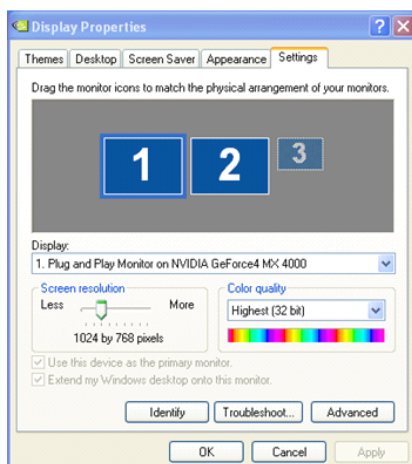
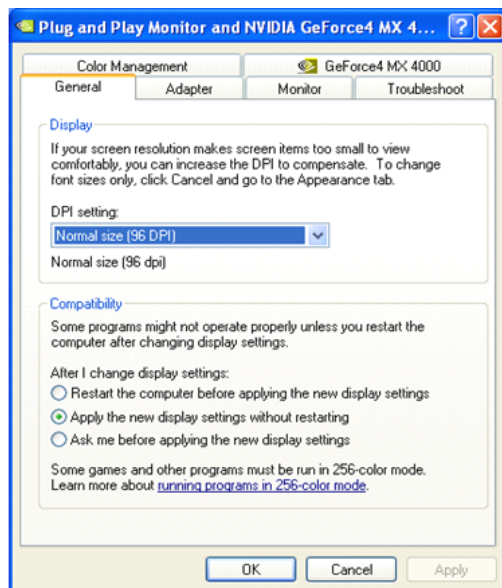
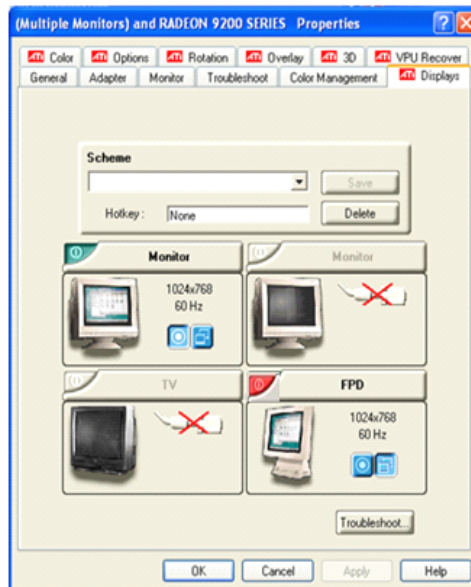

Figure 12-2
Figure 12-3
Figure 12-4
Click **[Property]** and the property menu will appear (Figure 12-2), click **[Set]** and the monitor (2) is activated. Select **[Expand the content of Windows to the monitor]** under the frame and press **[Application]** button, and then confirm. In this way, setting has been finished and the backstage playing can be realized. At this time, when pressing **[Back]** button of <LED studio device> too bar, the playing window will switch at the front and back stage of the monitor. When the playing window is switched to the front stage, the display screen will indicate Windows interface.
The following reverse settings shall be carried out when the front-stage playing replaces the backstage playing: right click the blank place in the desktop and Figure 12-1 will appear and then select [Property], Figure 12-2 will appear. Click [Monitor 2] and remove [✓] on the [Expand the content of Windows to the monitor] and click [Monitor 1]. Press [ok] and right click the mouse, Figure
12-1 will come out. Select property and Figure 12-2 will appear and click [Set] following with [senior], Figure 12-3 will come out. Click [display], Figure 12-4 will come out and then click red switch in [PDF(F)] bar, the switch will turn green and then click [Ok], Click [Yes], the synchronous display will be recovered.